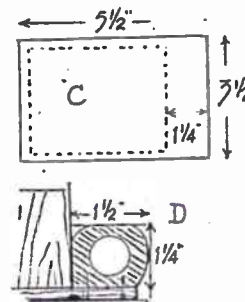

Fig. 2
Cut the base from the fretwood, to dimensions given in Fig. 2 (C), and glue the box (the bottomless one, of course) to it where indicated by the dotted outline. A few small nails can be added, driven in through the base part, under-